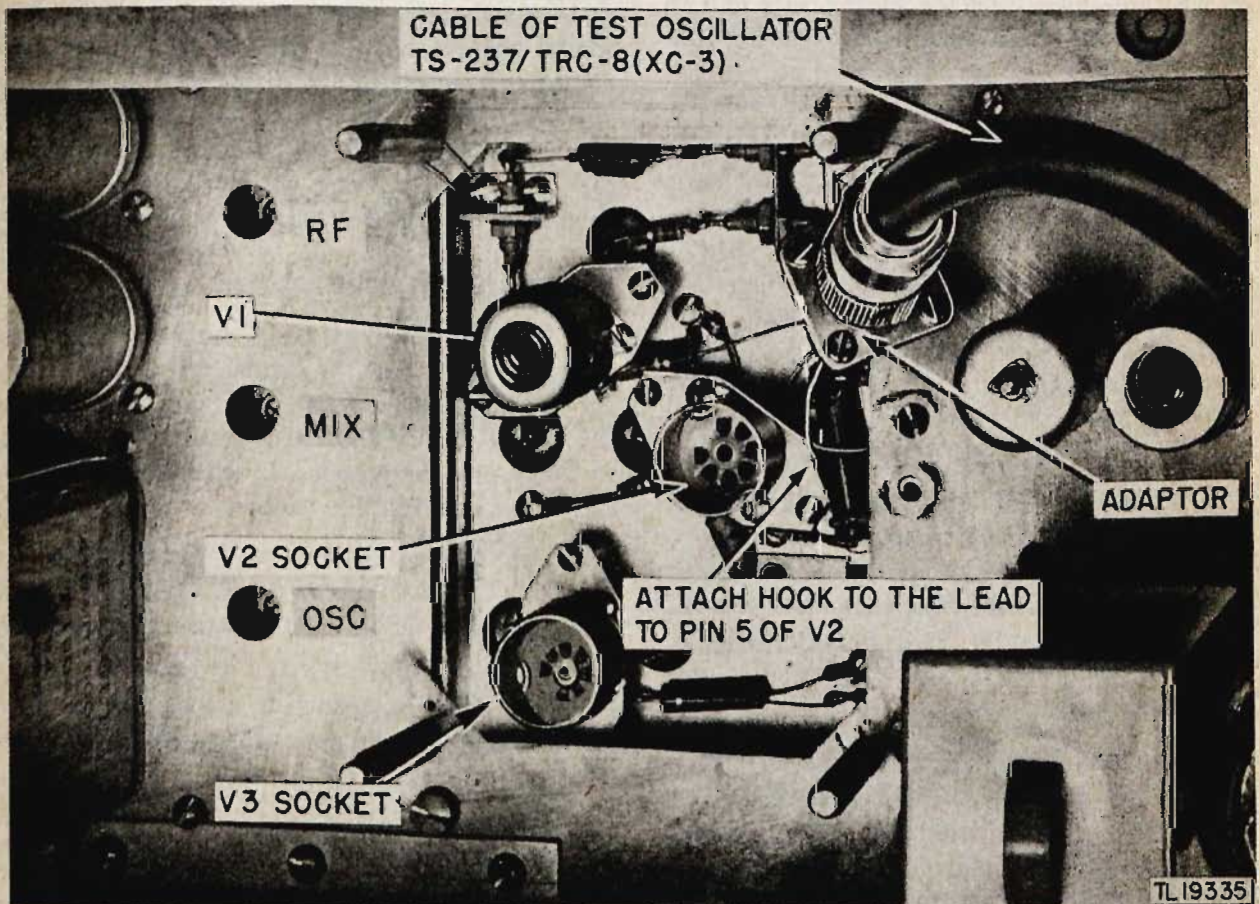

Figure 135. Hooking i-f adaptor to plate contact of mixer tube socket.
b. Remove the shield cover from the r-f section of the receiver (fig. 126). Remove mixer tube V2, and oscillator tube V3 (fig. 135).
c. Bend a small hook at the end of the 2.0-mmf capacitor and attach it to the plate contact of the mixer tube socket (No. 5 contact of tube V2) (fig. 135).